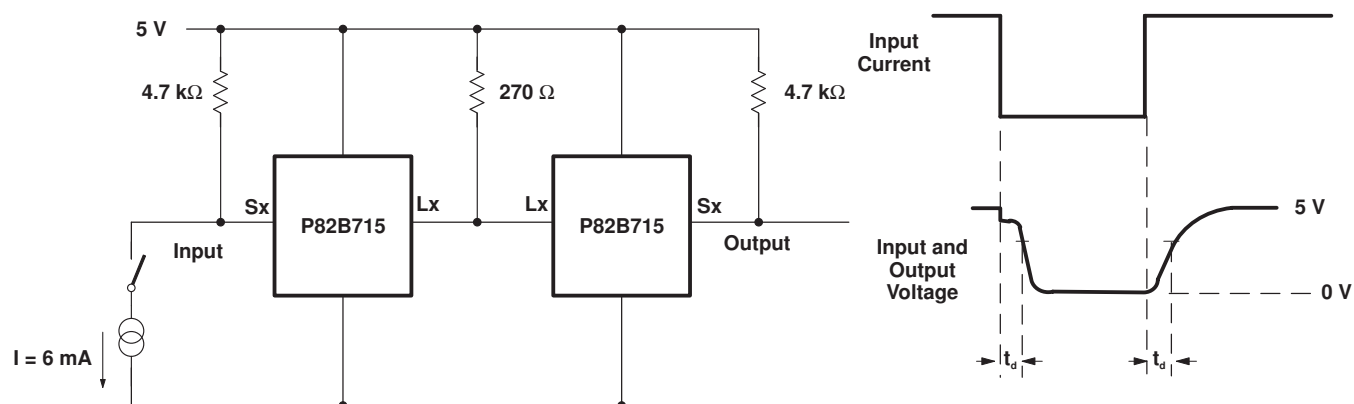

Figure 2. Test Circuit for Delay Times
- A conventional input-output delay is not observed in the S_x/L_x voltage waveforms, because the input and output pins are internally tied with a 30-Ω resistor so they show equal logic voltage levels to within 100 mV. When connected in an I²C system, an S_x/S_y input pin cannot rise/fall until the buffered bus load at the output pin has been driven by the internal amplifier. This test measures the bus propagation delay caused to falling or rising voltages at the L_x/L_y output (as well as the S_x/S_y input) by the amplifier's response time. The figure given is measured with a drive current as shown in Figure 2. Because this is a dynamic bus test in which a corresponding bus driving IC has an output voltage well above 0.4 V, 6 mA is used instead of the static 3 mA.